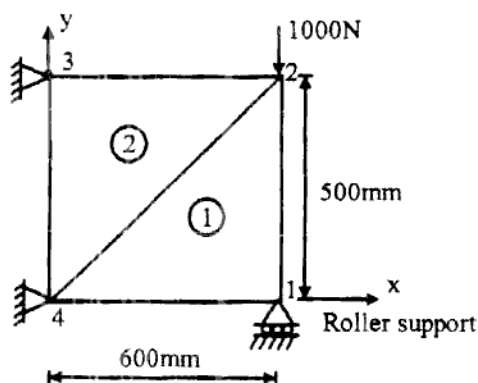

Fig. Q. 8
8. For the 2D loaded plate shown in figure Q. 8. Determine the material property matrix (D) 14